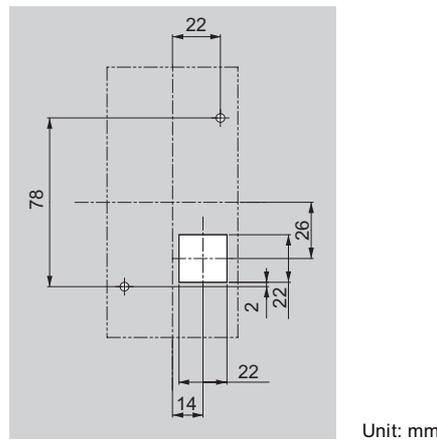

Figure 2.10 Panel Cut-Out Dimensions (External/Face-Mount Installation)
1. Cut an opening in the enclosure panel for the digital operator as shown in *Figure 2.10*.